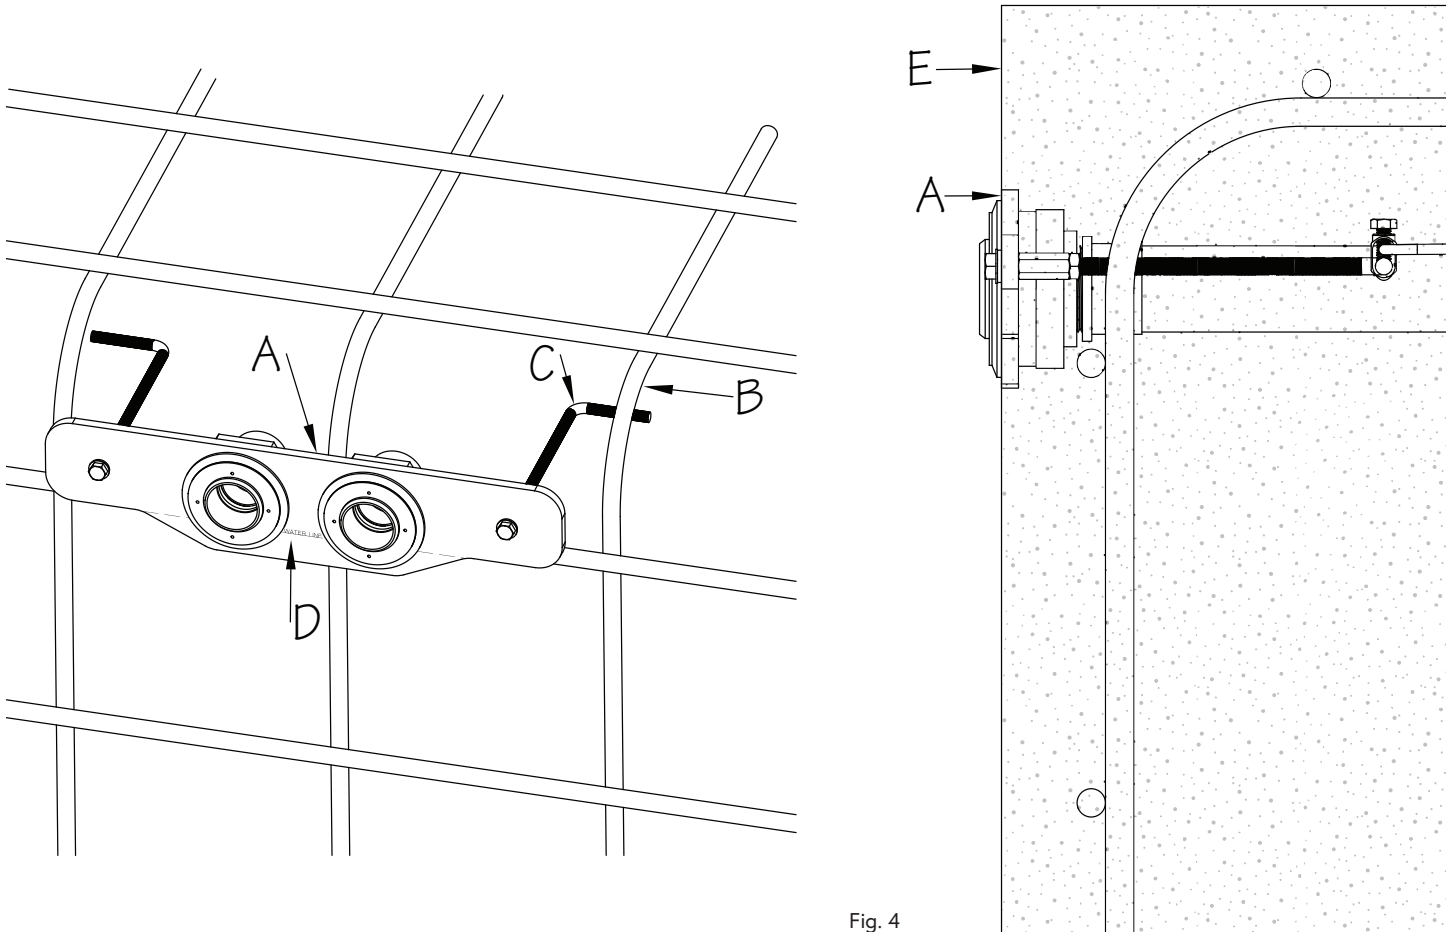

Fig. 4
3. The Mounting Kit Assembly (A) is to be secured to the Rebar Grid (B) of the pool in the desired Fastlane® Swim mounting location prior to pouring concrete as shown in Figure 4. This should be done by securing the Threaded Rods (C) to the rebar using rebar ties.